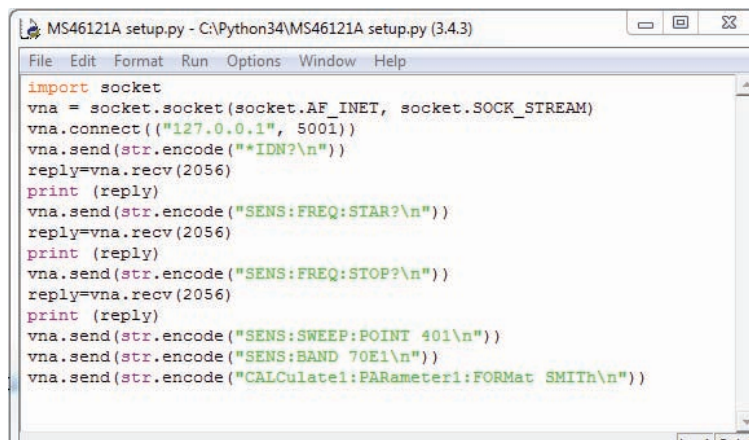

**Figure 1-7.** Execution of the MS46122A Python Script
8. The input of the script should look like Figure 1-7.